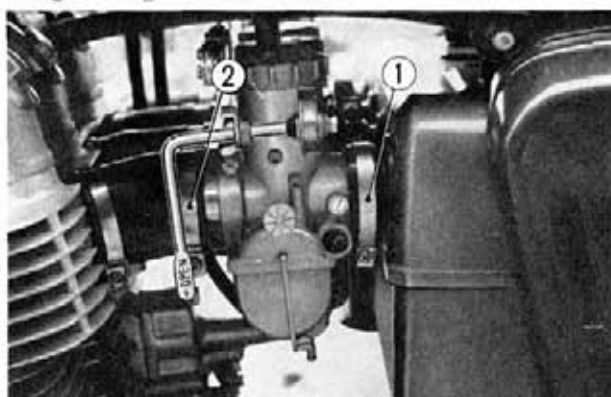

Fig. 6-3 ① Air cleaner connecting band
3. Loosen the air cleaner connecting tube and insulator bands and remove the carburetors as an assembly. (Fig. 6-3)